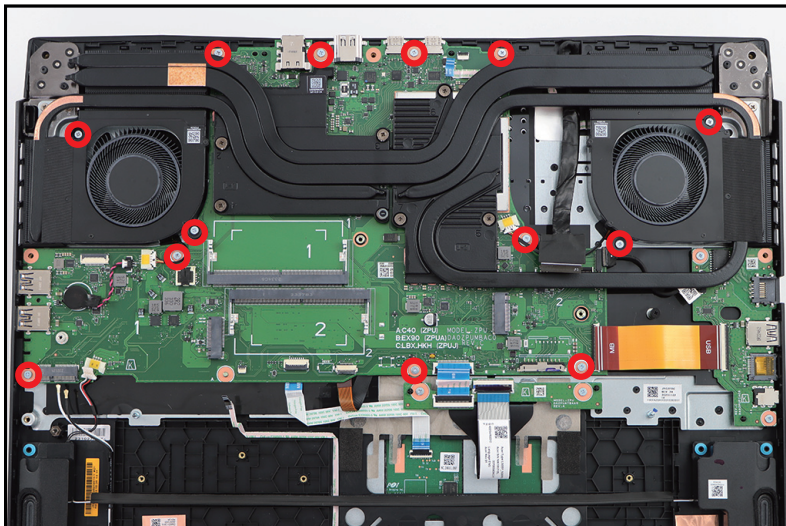

Figure 1-34. Mainboard Removal
11. Remove thirteen (13) screws securing the mainboard, right fan, and left fan (Figure 1-34).